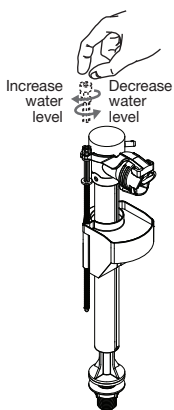

Fig. 3
- 6- Adjusting water level: Turn on water mains. Open the cistern stop valve and check the operation of the mechanisms and valve. Adjust water level to the water level mark inside the cistern by simply turning the float arm adjustment screw in a clockwise or anti clockwise direction as detailed in **Fig. 3**.